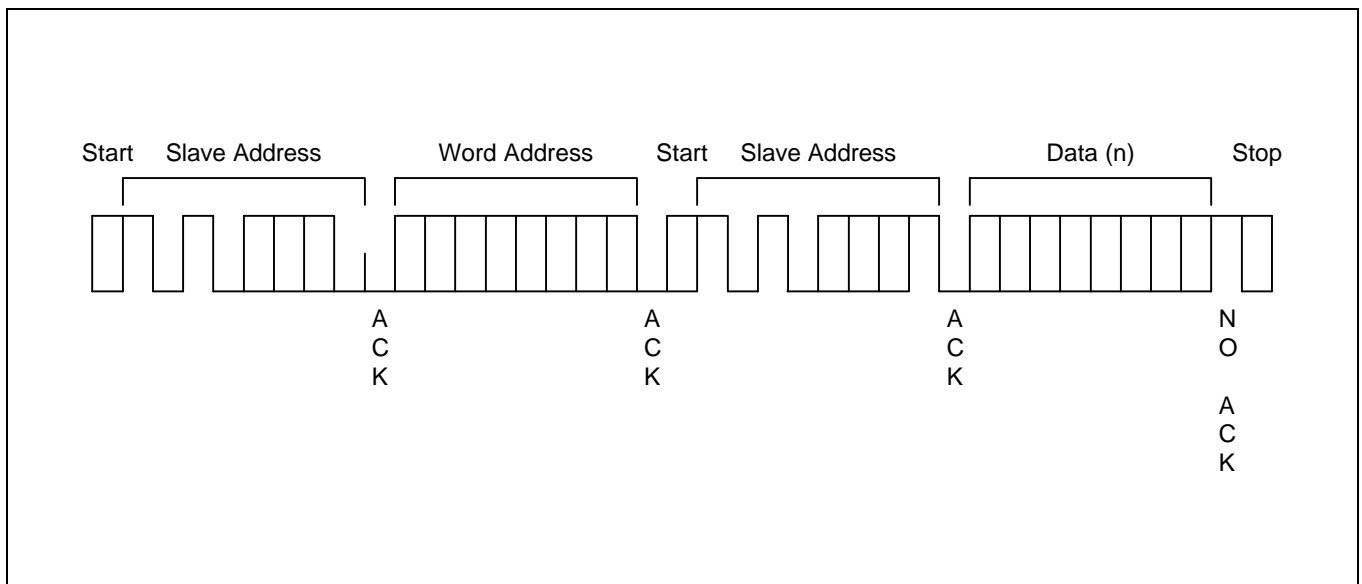

Figure 2-14. Random Address Byte Read Operation
5. In response, the S524A40X10/40X20/40X40 stops transmitting data and reverts to its stand-by mode (see Figure 2-14).